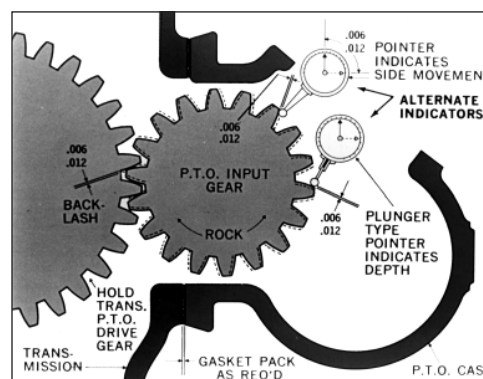

Fig. 13
**NOTE:** For proper location of dial indicator contact point (See **Fig. 13**). (Two common type dial indicators shown).